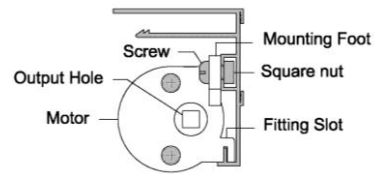

Figure 7
- Place the motor onto the headrail (generally in the center of a headrail) such that the fitting slot at the bottom of the motor is sitting on the headrail's components sitting bar (Figure 17). Then screw the motor onto the headrail's components fitting slot (Figure 17) through its mounting foot. Refer to Figure 7.